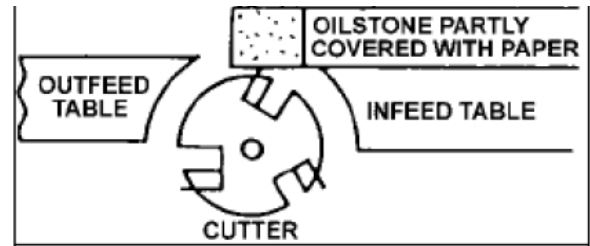

Fig. 25: Sharpening the knives
Step 3: To protect the infeed table from scratches, partially cover the sharpening stone with paper (Figure 25).